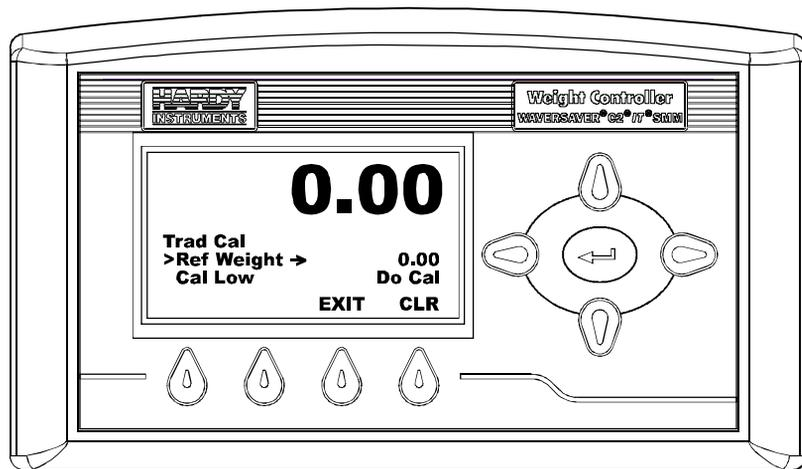

FIG. 311 TRAD CAL/SELECTING ZERO VALUE
Step 5. Press the Enter button. The Trad Cal menu appears. (See Fig. 311)